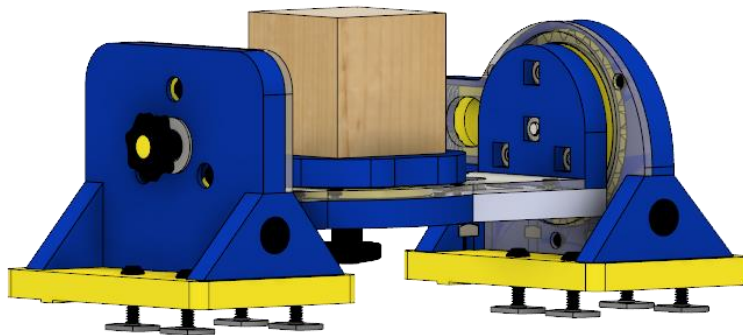

Figure 7
- 1) Press or screw the 8 bolts into their respective holes in the yellow base plates (Figure 7).